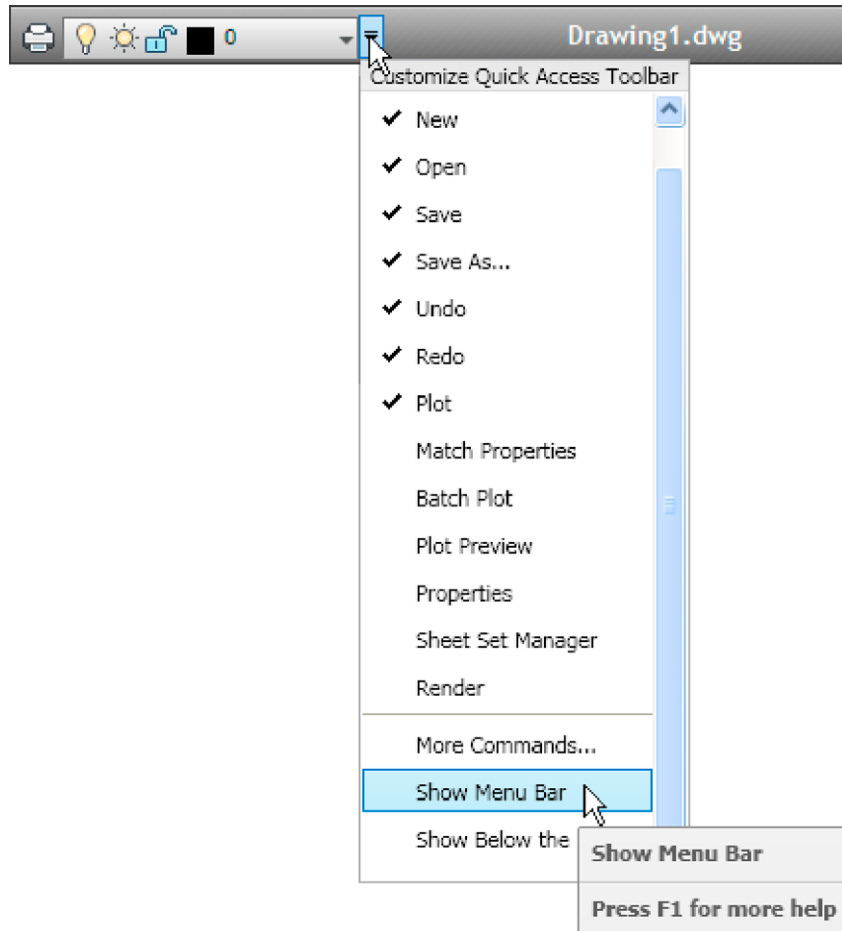

Fig. 3.3 Selecting **Show Menu Bar** from the *left-click* menu in the **Quick Access** toolbar
2. By *clicking* on a tool icon in a drop-down menu. Fig. 3.2 shows the tool names and icons displayed in the **Draw** drop-down menu. It is necessary to first bring the menu bar to screen with a *click* on **Show Menu Bar** in the *left-click* menu of the **Quick Access** toolbar (Fig. 3.3) if the menu bar is not already on screen.